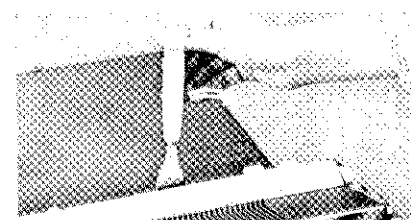

Fig. 20
- b. Push buttons which is pushed in will release by turning the set lever to the right direction. (See Fig. 20)